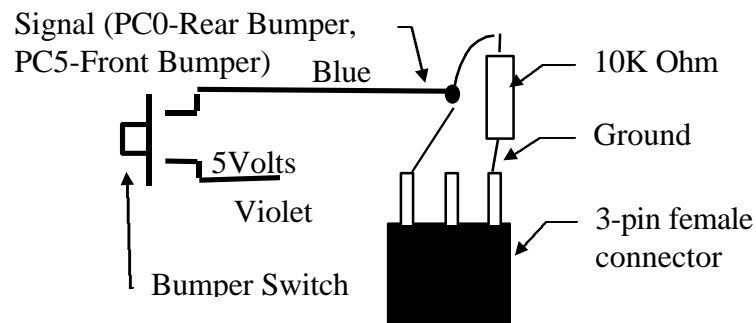

Figure 21 Three pin female bumper connector. Plugs onto MSCC11E2 male header.
4. Make two three pin female connectors (Figure 21) with 10K ohms soldered between the two outside pins. Wire the three front bumper tactile switches in parallel and connect their common nodes to the three pin. The single back bumper switch is wired as shown.